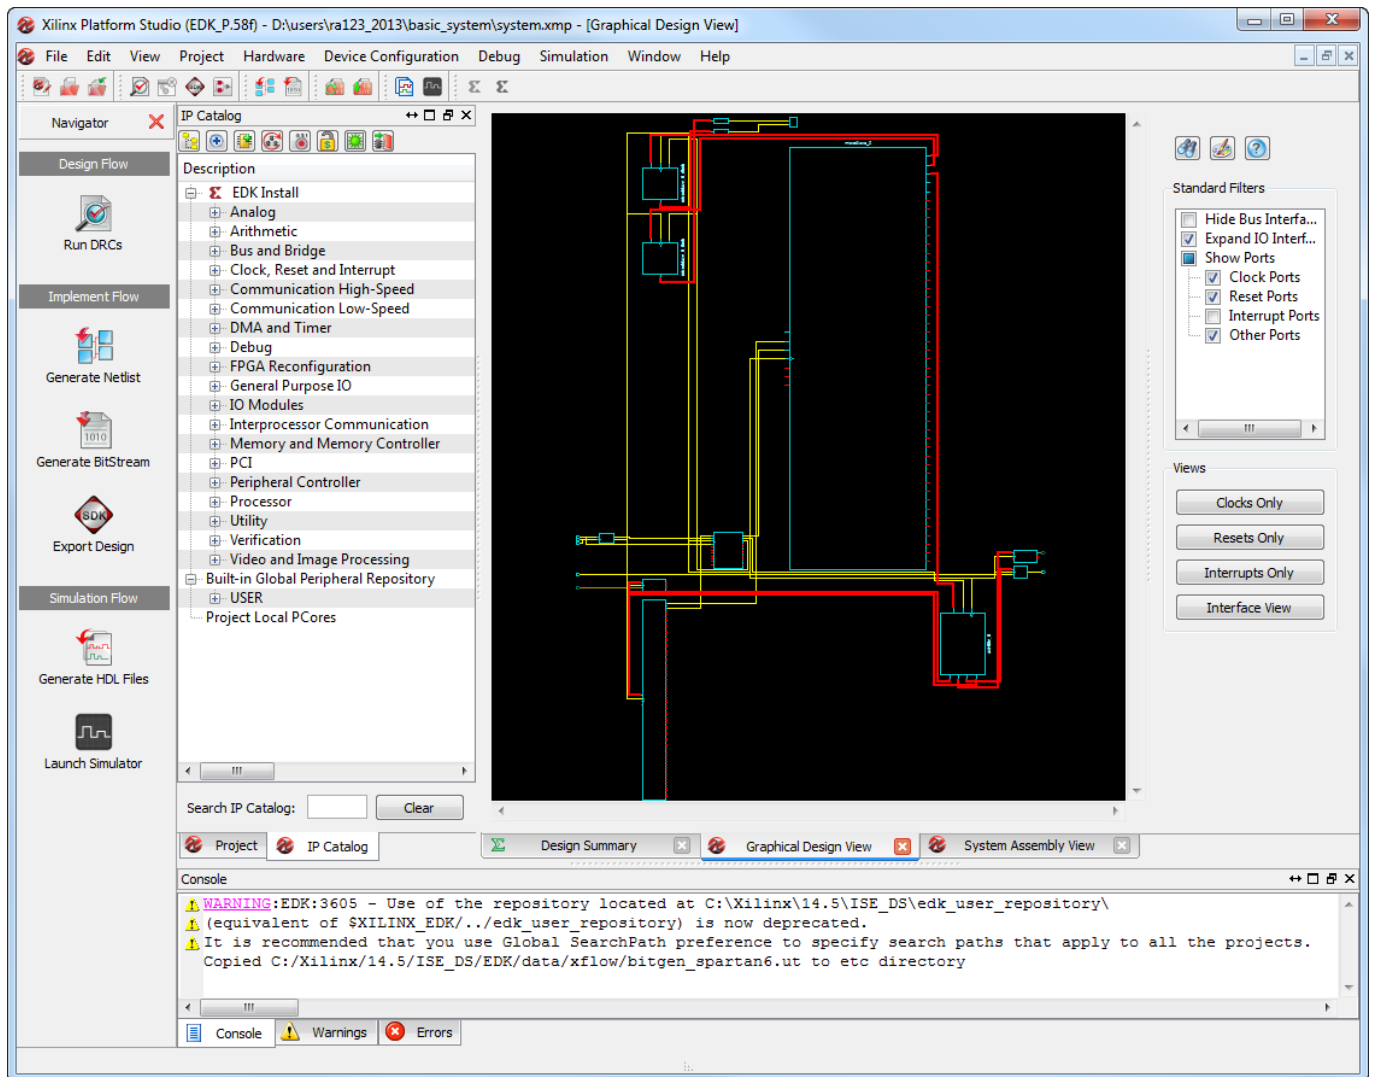

Figure 10: Graphical Design View
1. Examine the hardware design - In the Graphical Design view Select the **Graphical Design View** tab and browse the various components that are used in the design by using the mouse gestures to zoom in for closer examination (Click drag up and right to zoom out; click drag down and left to zoom in. Also try click drag down right to zoom an area and click drag left up to zoom to fit). The block diagram provides a graphical schematic of the embedded processor platform. You will see the MicroBlaze processor, AXI interconnect, LMB bus, and the various peripherals (Figure 10).